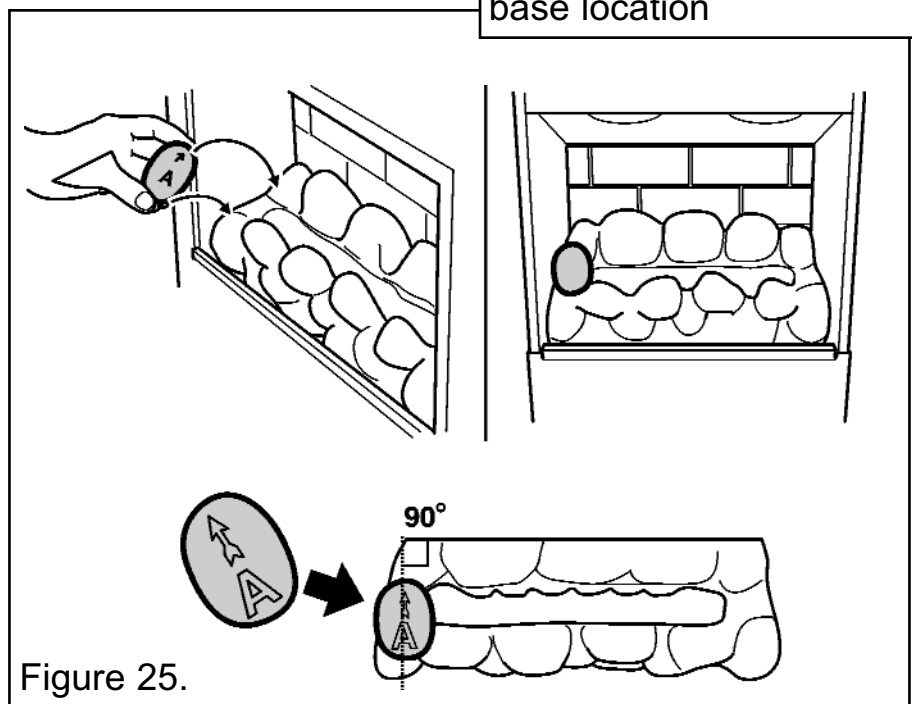

Figure 25.
**2.** Hold pebble 'A' upright with the arrow pointing to the top. Locate pebble 'A' as shown in figure 25.